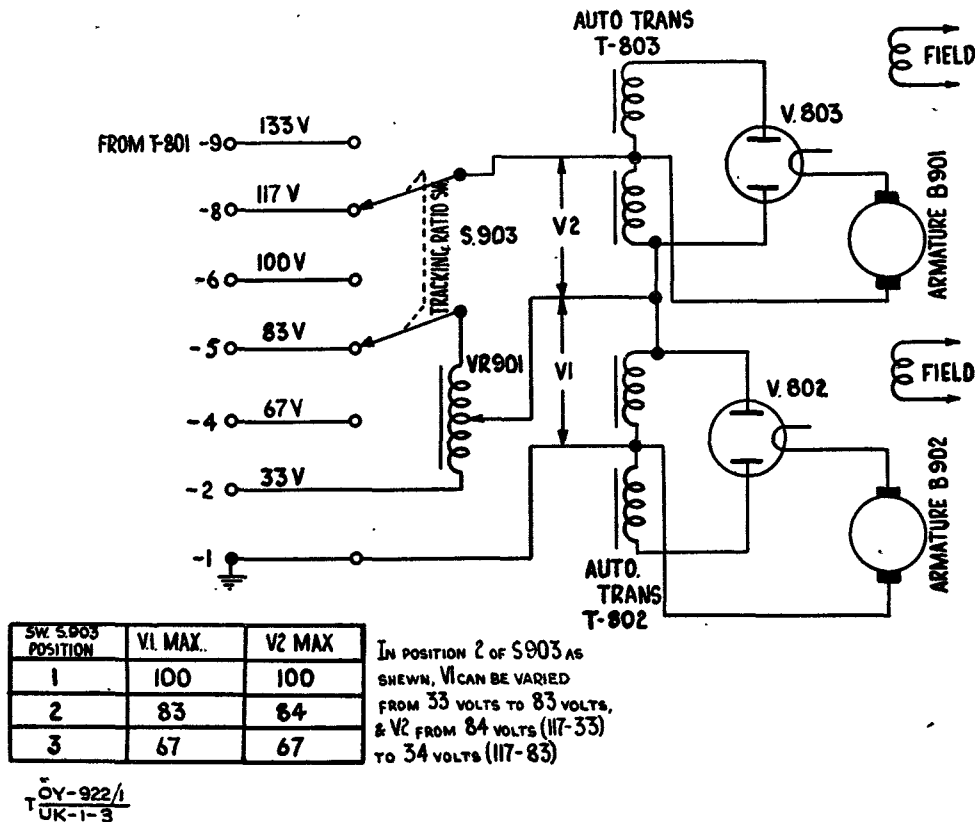

Fig. 3. Simplified circuit of tracking motors
96. Variation of the voltages selected by the tracking ratio switch is accomplished by the variac VR-901, thus controlling the input to the armature rectifier circuits. Fig. 3 will help to show how this variation is obtained.